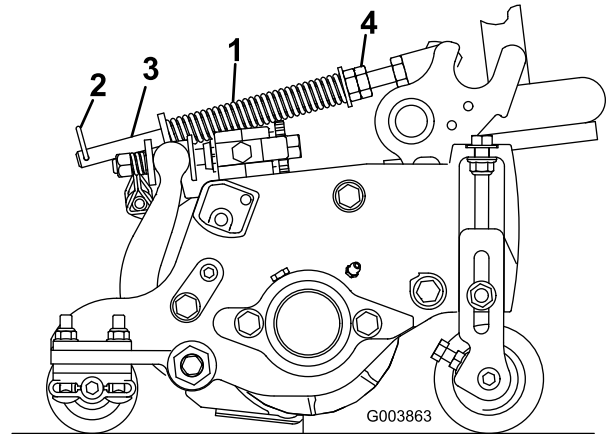

Figure 15
1. Make sure that the hairpin cotter is installed in the rear hole in the spring rod (Figure 15).
2. Tighten the hex nuts on the front end of the spring rod until the compressed length of the spring is 15.9 cm (6.25 inches) (Figure 15).